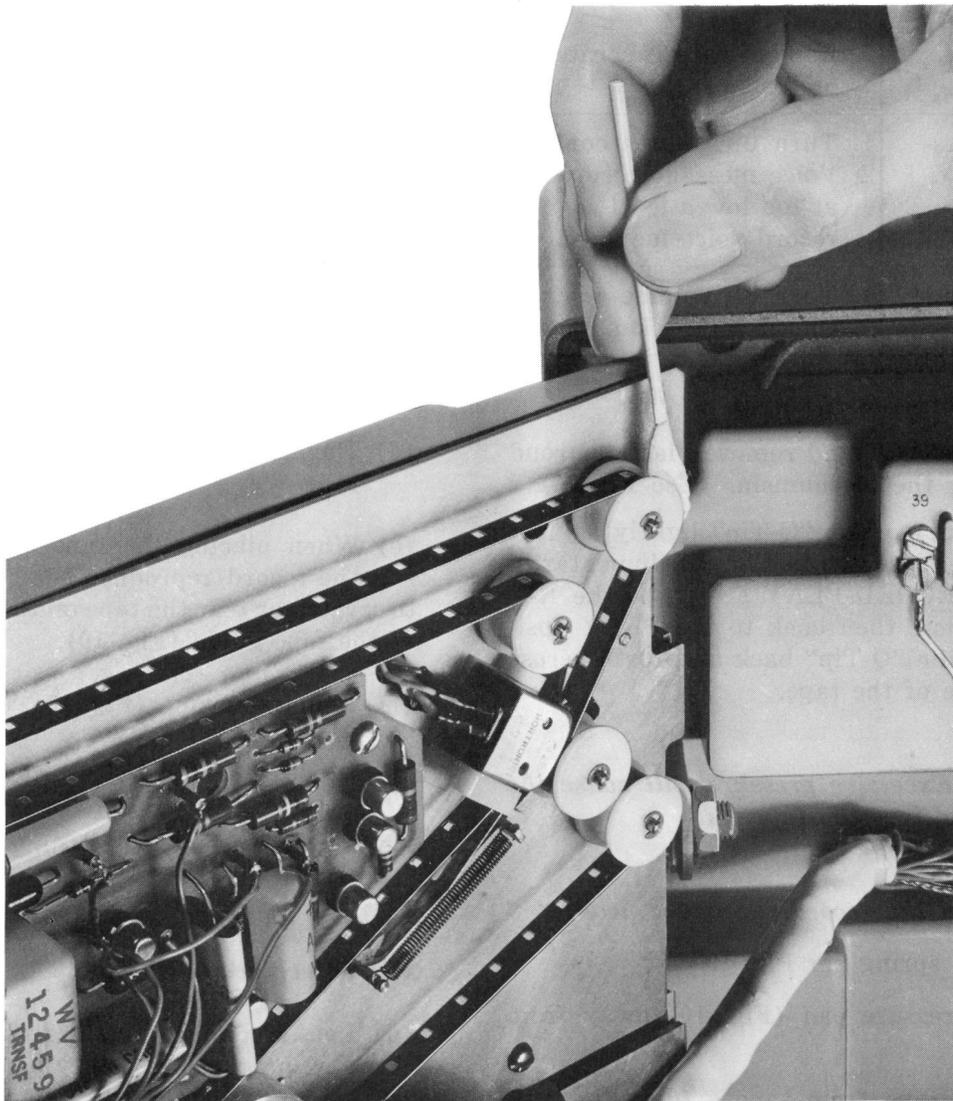

Fig. 9 — Details of Cleaning Tape
- (b) Hold a dry, clean "Q-Tip" lightly against the tape as shown in Fig. 9. Momentarily move the RECORD-PLAY switch to the RECORD position, then back to the PLAY position. Move the "Q-Tip" back and forth across the dull face of the tape.